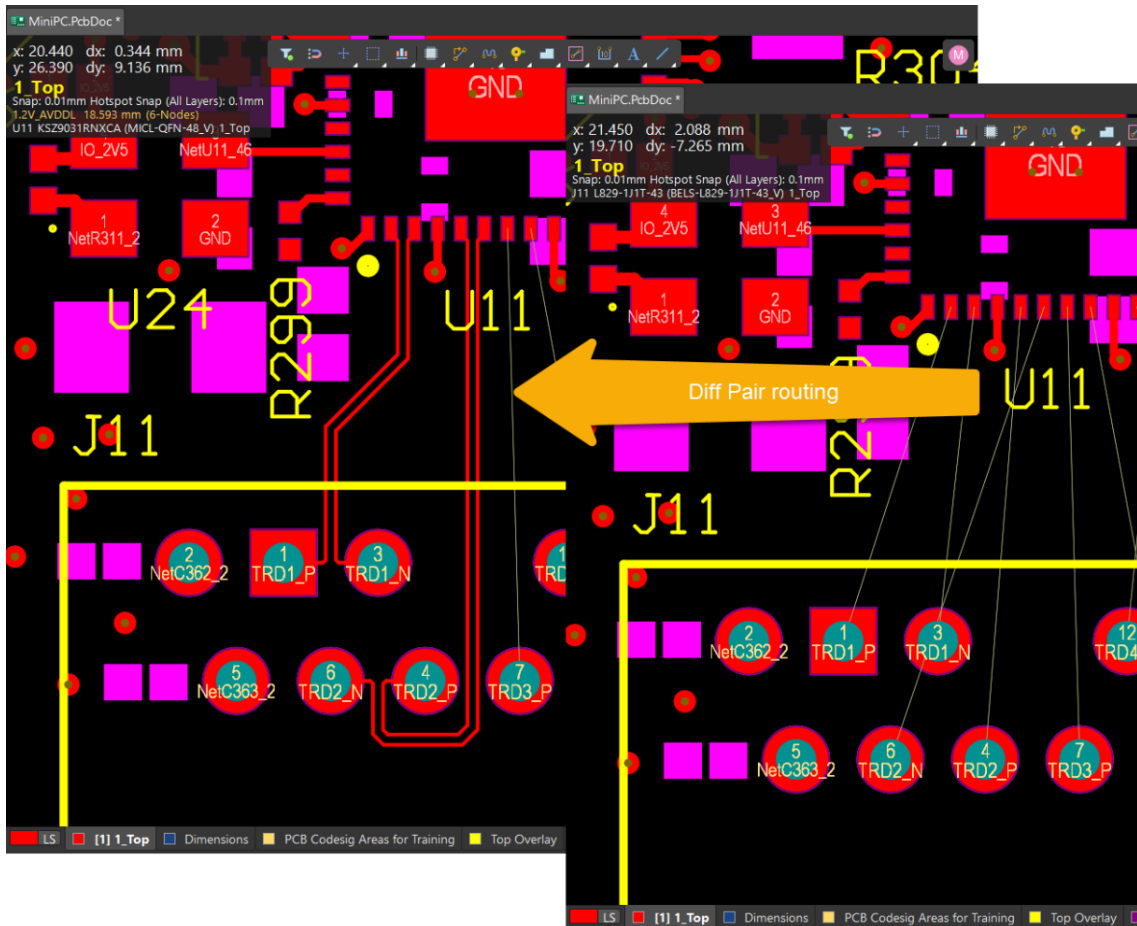

Figure 8. Differential Pair Routing
19. Route two of the four differential Pairs, TRD1 and TRD2, as seen in Figure 8. Start the Differential Pair routing command with your preferred method, for example, **U » I**.